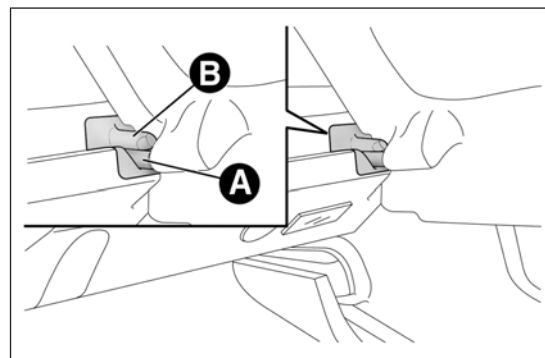

fig. 63
- ☐ free the pins A fig. 63 on the outside of the shelf from the housings B in the side mountings, then remove the parcel shelf;